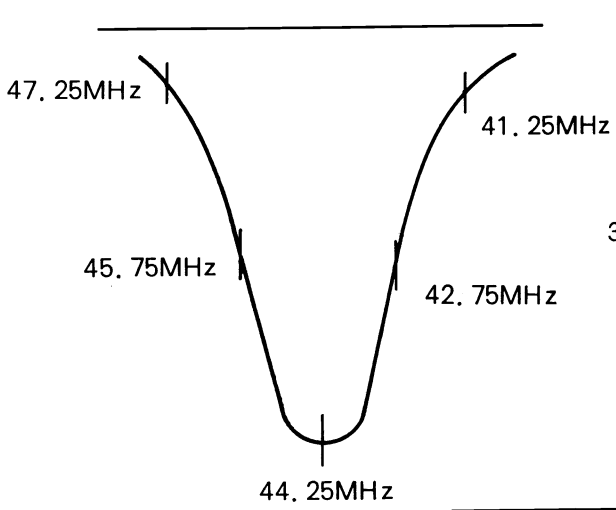

Figure 3
10. In the manner specified in step 8, adjust TIF-383 (Top & Bottom core) to obtain a waveform on the oscilloscope equivalent to the pattern in Figure 3.
2. Pull Control Knobs, Channel Selector Knob and Fine Tuning Knob straight out (Fig. 3).
3. Remove the two screws (in Fig. 2 and Fig. 3).